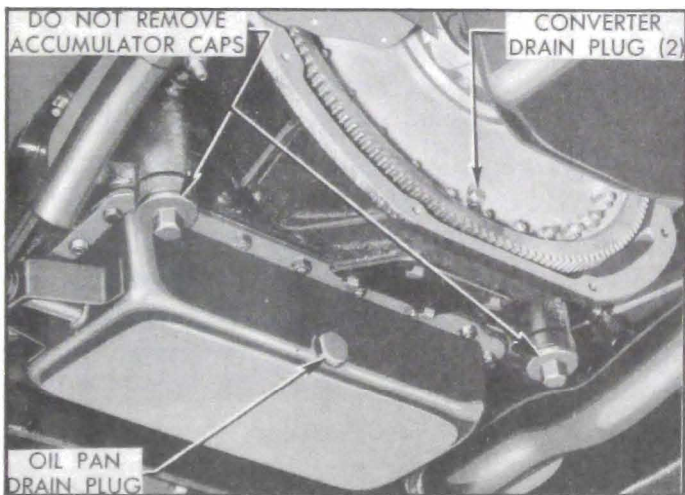

Figure 1-16—Dynaflow Transmission Drain Plugs
2. Loosen one converter drain plug, through opening in flywheel, then turn flywheel until opposite drain plug is straight down and remove this plug to allow converter to drain completely. See figure 1-16.
3. Remove drain plug and allow oil pan to drain completely. *Do not remove accumulator caps.* See figure 1-16.
5. Put 3 quarts of specified oil (subpar. a.) in transmission. With engine idling and transmission in Parking (P) complete the refilling to bring oil level to $1\frac{3}{4}$ " below "FULL" mark on gauge rod. When transmission oil is warmed